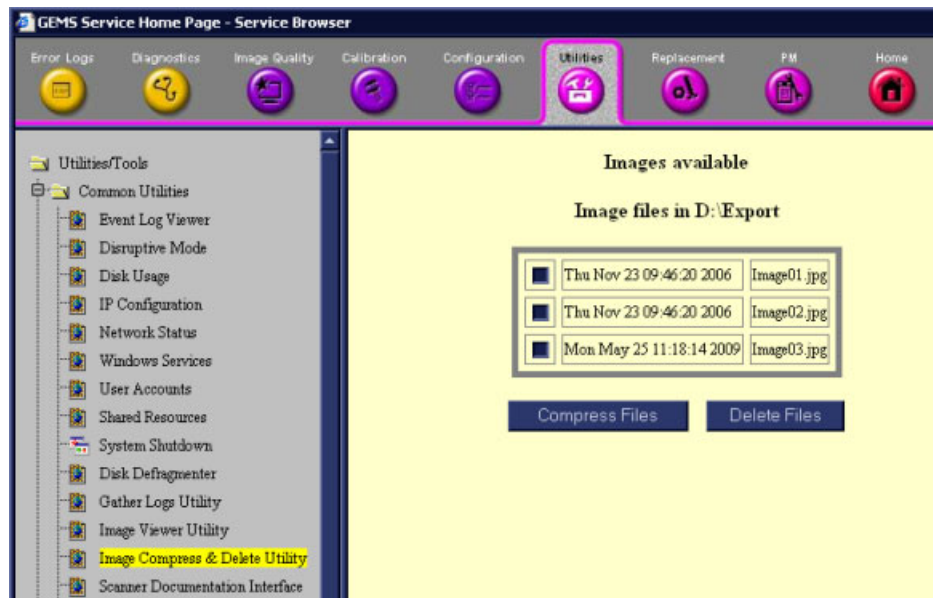

Figure 7-134 Image Compress and Delete Utility
- **Image Compress and Delete Utility** - enables the OLC to compress images for downloading and deleting redundant files from D:\Export - see Figure 7-134.